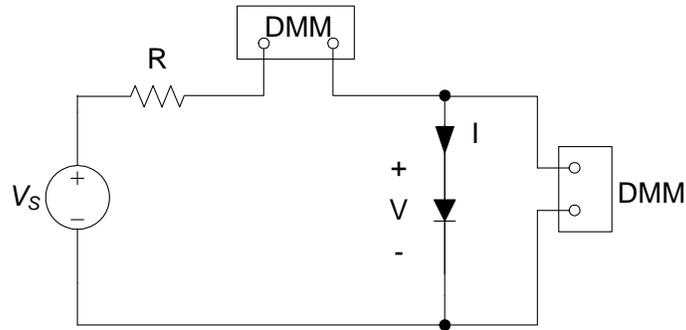

Figure 1 Diode characteristic-curve measuring circuit.
- (b) Construct the circuit shown in Fig. 1 using this resistor, a silicon 1N4148 diode, and one pair of output terminals from the DC power supply. Attach one DMM as a voltmeter across the diode using the auto-range and DC voltage scale. Make sure the power supply voltage is turned to zero volts. Use a second DMM in the circuit to measure the current.
The circuit for measuring the diode characteristic curve is shown in Fig. 1. A positive voltage V results in a forward bias current, I , through the diode. For reasonable values of the (positive) voltage, the exponential term in (1) is much greater than 1 and the current is almost exactly represented by a purely exponential curve. Thus, we may approximate the current as